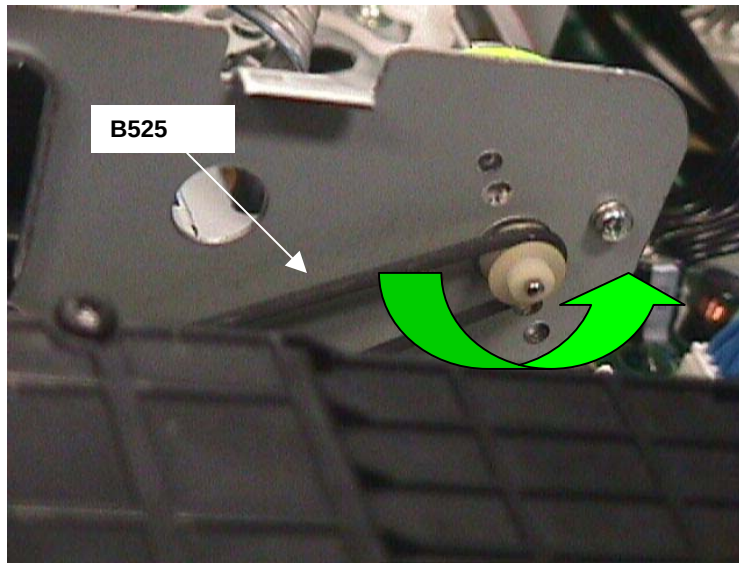

Figure 1:Turning B525 by hand
1. Turn the B525 (LDG Belt MK11) in the direction indicated by the arrow below in figure 1: